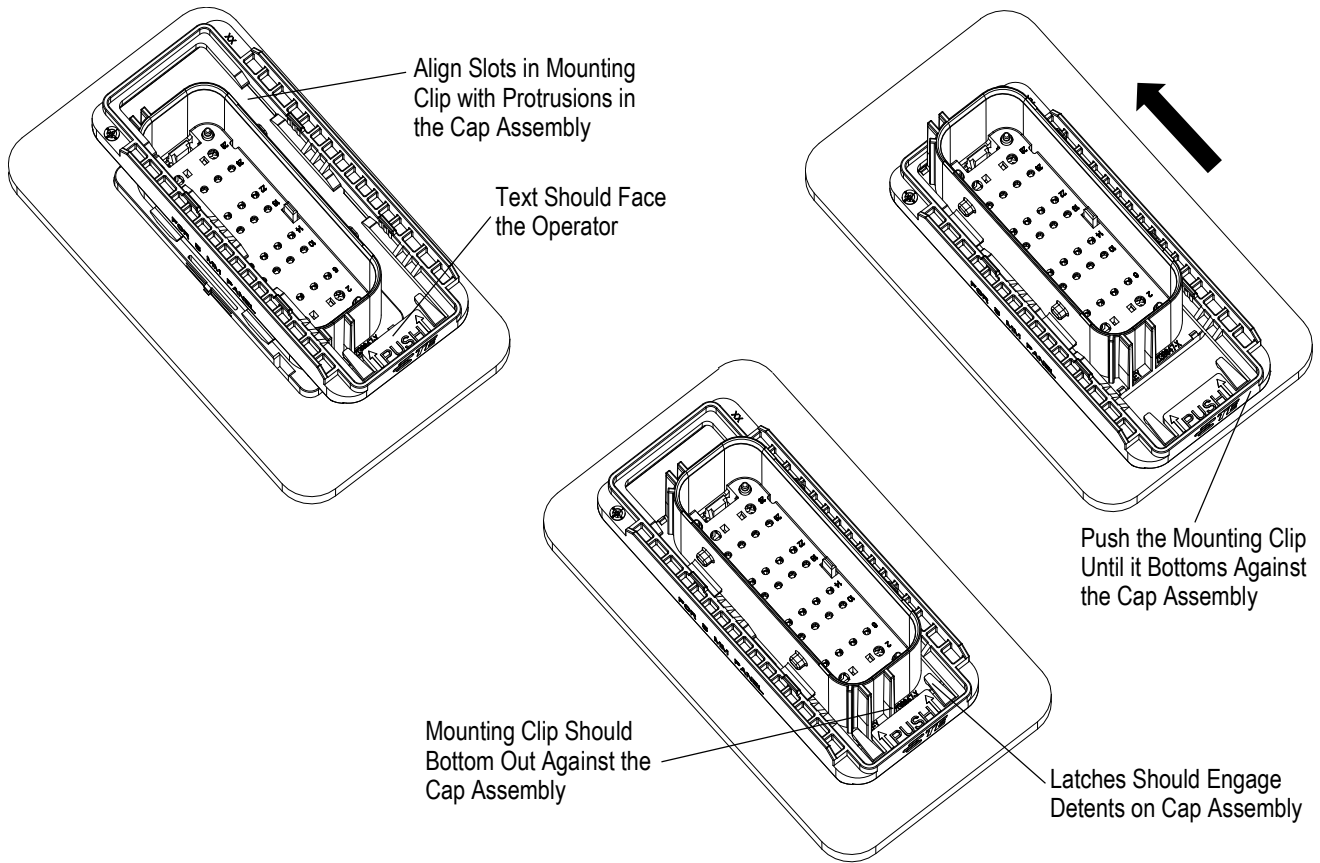

Figure 19
5. For added strain relief, it is recommended that a wire tie be used to secure the wire exit cover to the connector. See Figure 19.